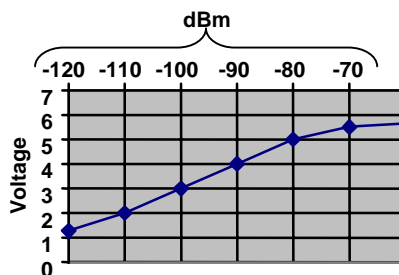

Figure 26 - T855 and T885, RSSI Curve: volt to dBm
- Vary the RF level and check the RSSI output voltage (Figure 26):